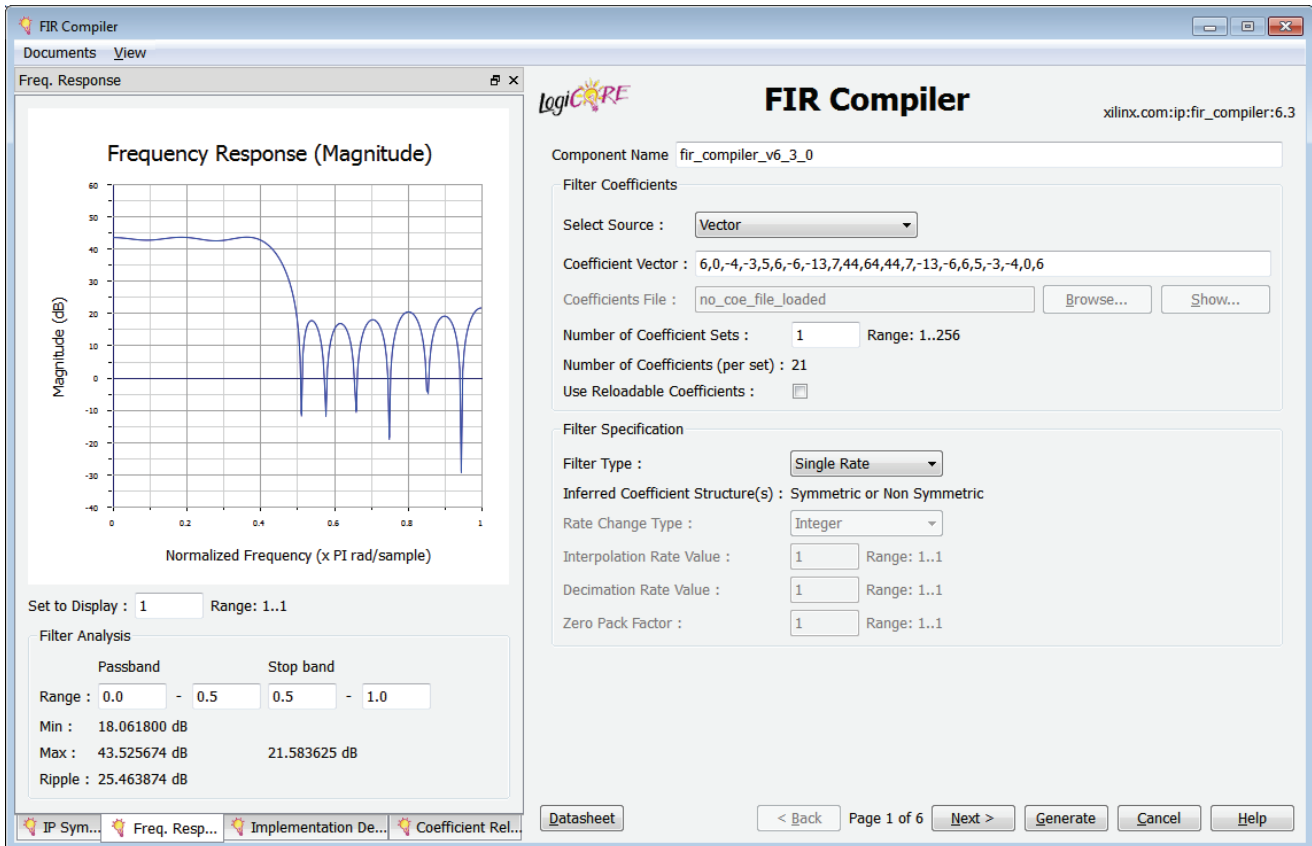

Figure 3-26: CORE Generator Interface
- CORE Generator software wizard, as seen in Figure 3-26.